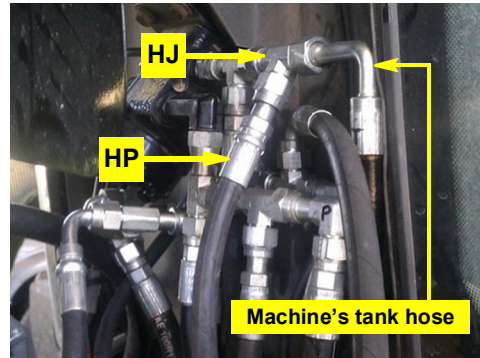

Figure 9: Tank run-tee installed, pressure hoses connected/reconnected
- a. Install run-tee **HJ** at the run-tee in the orbital's tank port (rear of the two upper ports - Figure 9).
- b. Connect the machine's tank hose to the open 'T' end of **HJ** (Figure 9).
- c. Connect tank hose **HP** to the stem of **HJ** (Figure 9).